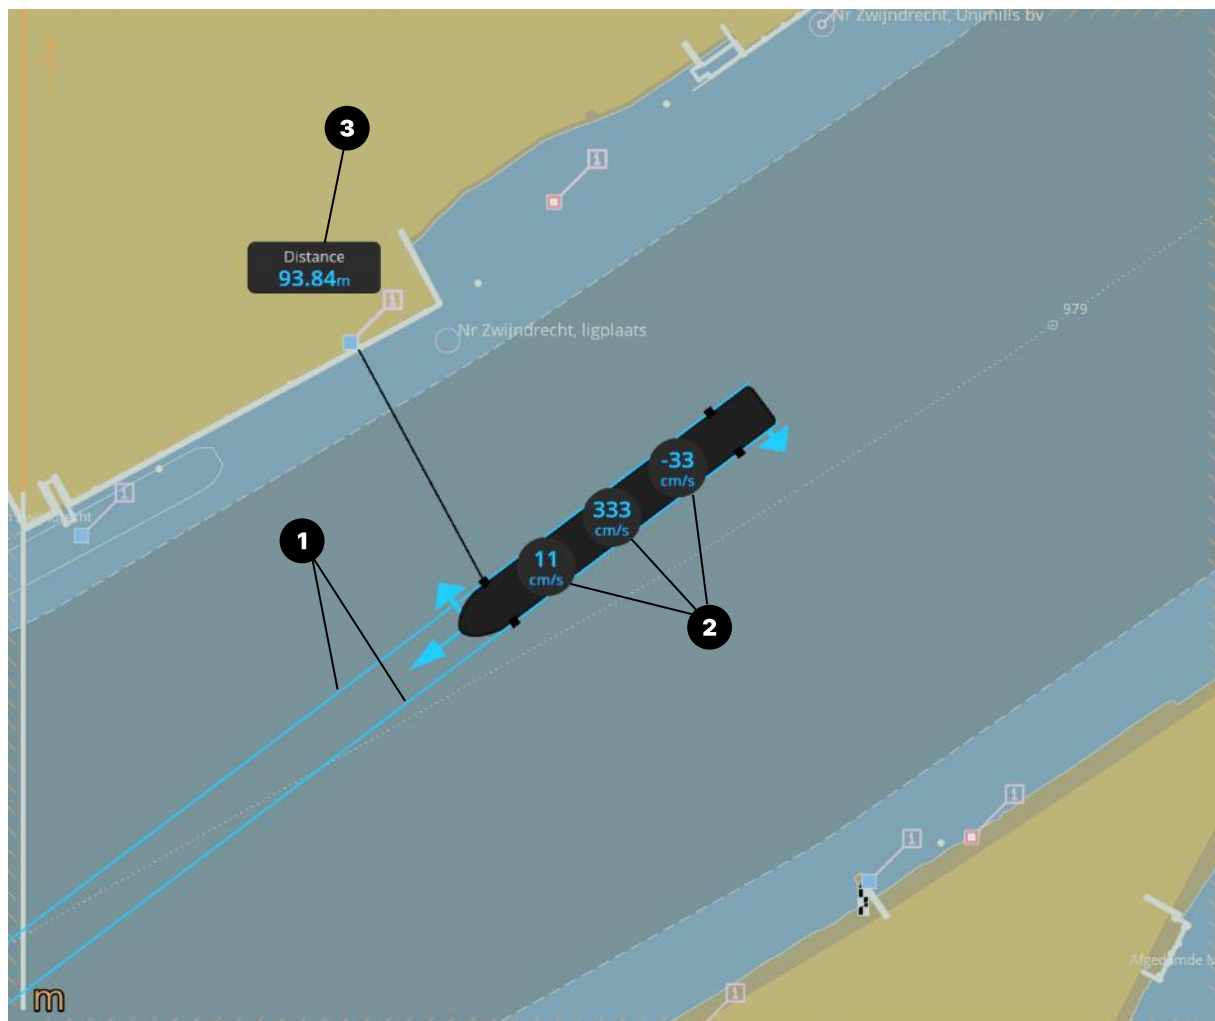

Figure 8: AlphaMINDS Docking application > Main area > Lock Approach mode example
- **Alignment lines;** a layer that shows two lines straight ahead and in line with the vessel. It can be used, for example, when approaching a lock or narrow channel to see if the vessel is straight ahead and properly aligned. See Figure 8 for an example.
Figure 8 shows the following layers: (1) Alignment lines, (2) Speed information and (3) Distance information.
LAYERS – ALIGNMENT LINES  	<p>Show Lines:</p> <ul style="list-style-type: none"> <li>- Auto (alignment lines parallel to the vessel will be shown when in Lock Approach mode (see Figure 8 on page 42))</li> <li>- On</li> <li>- Off</li> </ul>